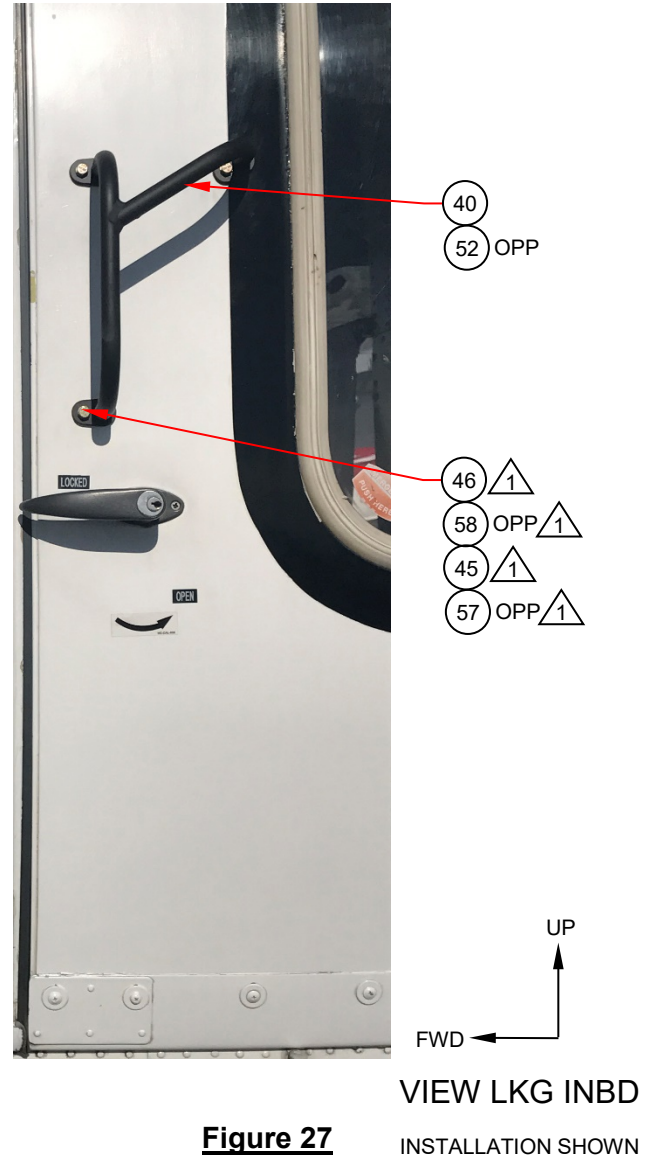

Figure 27
6. Once the potting compound has cured install the Handle, Assy, LHS/RHS, AFT (Items 40 & 52 OPP), using the supplied hardware as shown. Reference Figure 27.